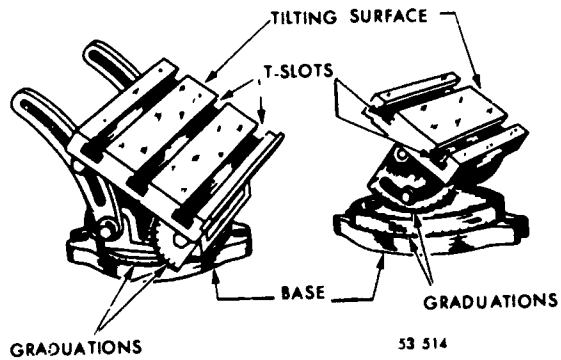

Figure 1-34 Toolmaker's knee
**Toolmaker's Knee.** The toolmaker's knee, shown in figure 1-34, is a simple but useful attachment for setting up angular work, not only for milling but for